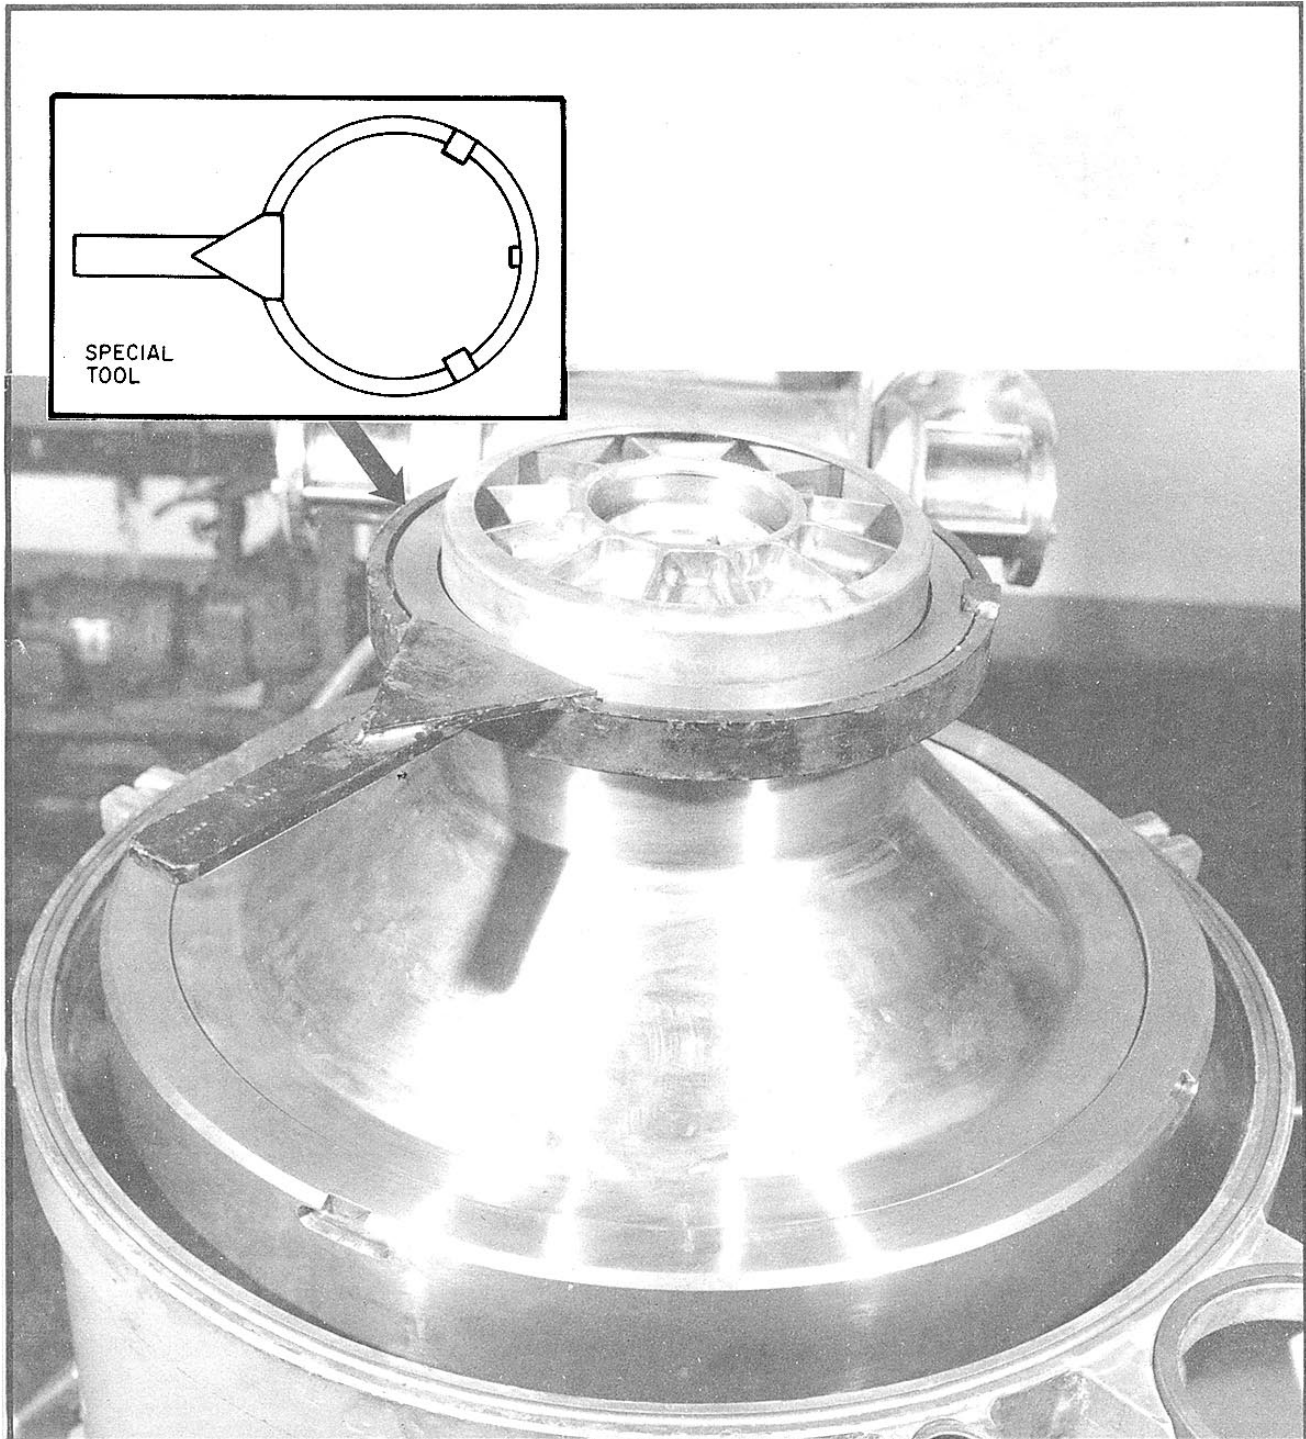

Figure 4-36.—Removing bowl top coupling nut (with special tool).
4. Unscrew the bowl top coupling nut (fig. 4-36), using the special tool (inset, fig. 4-36) and remove the discharge ring and rubber ring.